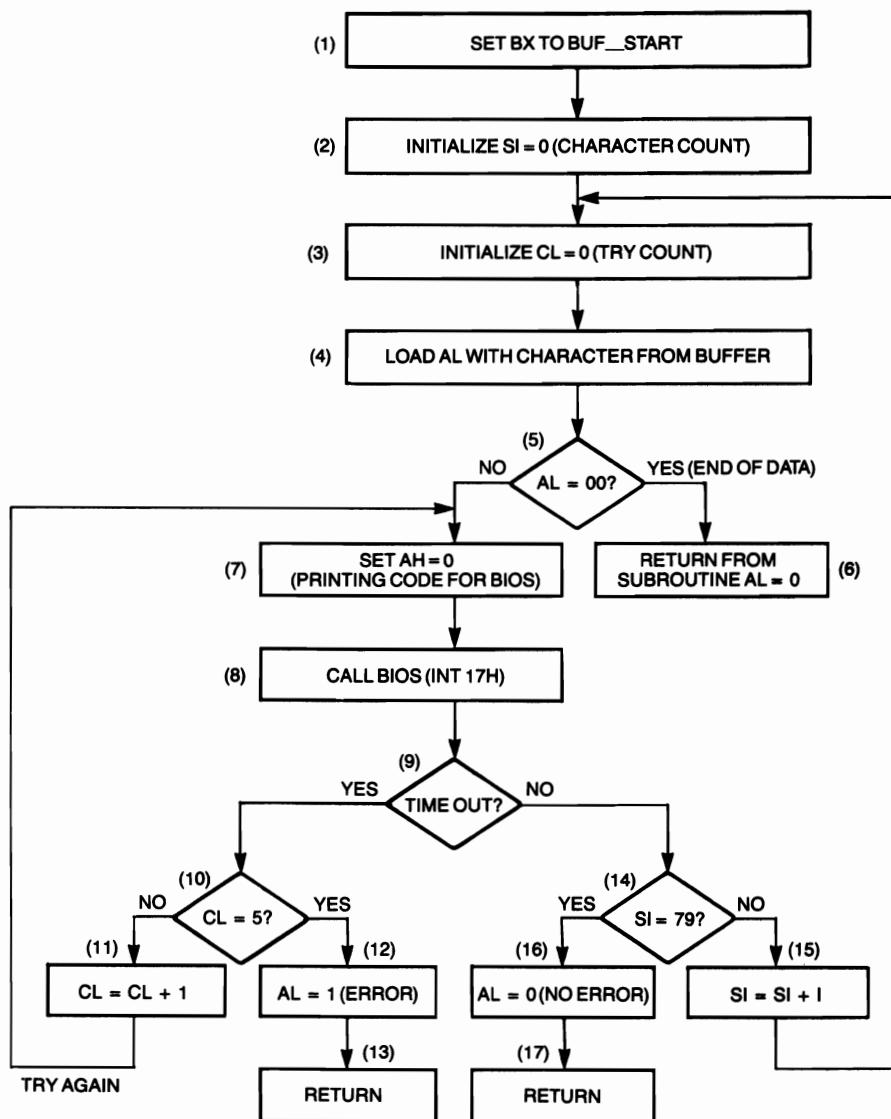

Figure 8.4: A flowchart for printing a buffer full of data using the printer BIOS.
Figure 8.4 shows a flowchart for one solution to this problem.
Figure 8.5 shows an 8088 program that will implement the flowchart given in Figure 8.4. Let's examine it so that we completely understand what each instruction is used for. Before we begin, however, note that all of the steps referenced in the flowchart of Figure 8.4 are shown in the program. This helps you to see how each step of the flowchart is realized with 8088 mnemonics. The mnemonics shown in Figure 8.5 are for an 8088 assembler only. Some of the expressions and number indicators may vary if you are using an assembler by a different manufacturer.
-Figure 8.5: An 8088 program to realize the flowchart shown in Figure 8.4.